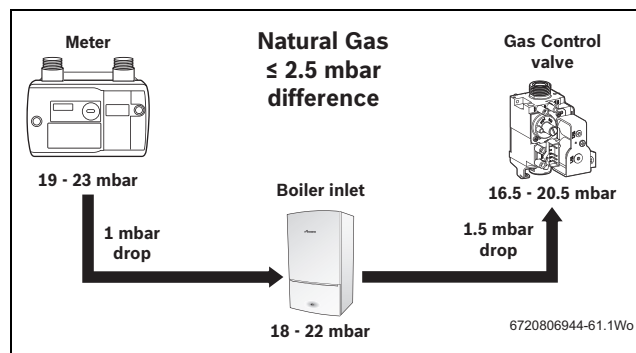

Fig. 46 Natural gas pressures
- ▶ Check the gas supply working pressure at the gas valve inlet point is no less than the values shown in figures 46 or 47.